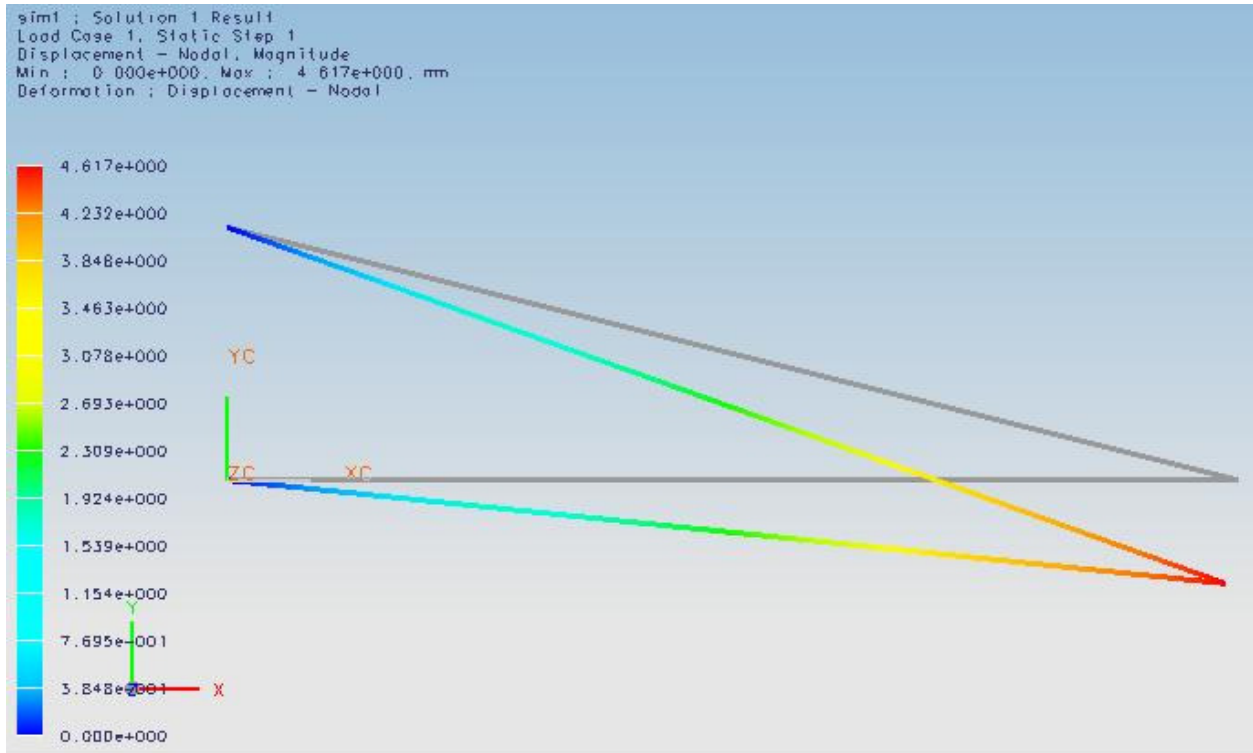

Figure 9. Displacement Results
- b) Expand “Solution 1” and double-click on “Displacement – Nodal” to show the results as shown in Figure 9. The areas in red have high displacements while the areas shown blue have small or no displacements.